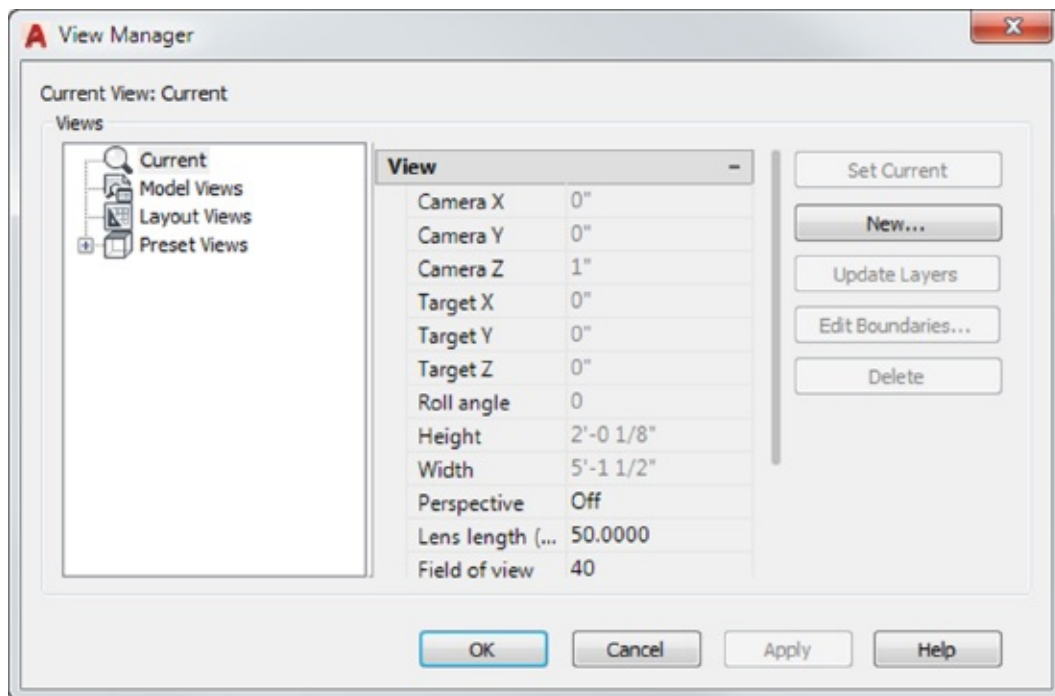

FIGURE 7.4 The View Manager dialog box
1. Click the View Manager tool in the View tab's Views panel. If you don't see the Views panel, right-click in the View tab and select Show Panel > Views. You can also type **V** ↵ to open the View Manager dialog box (see Figure 7.4).